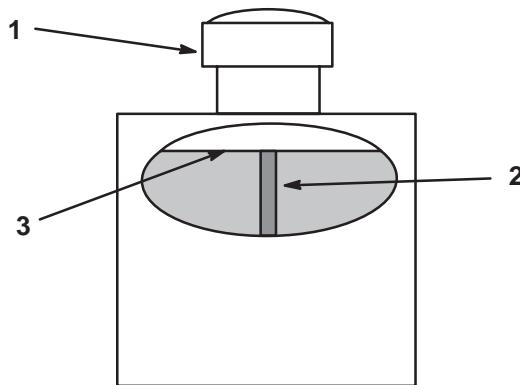

Figure 34
2. Clean area around filler neck of hydraulic tank (Fig. 34).
3. Remove cap from filler neck. Look inside to check if there is fluid in the reservoir (Fig. 34).
**Note:** Fluid level should be to the top of the baffle when fluid is warm (Fig. 34).